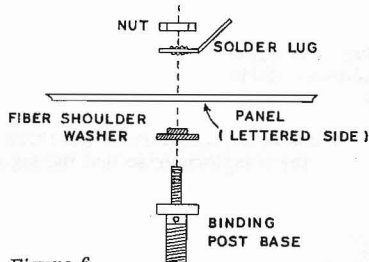

Figure 6
- (✓) Mount the GND. and remaining PHONE binding post, using a fiber shoulder washer, solder lug and 6-32 nut. Tighten securely. See Figure 6.